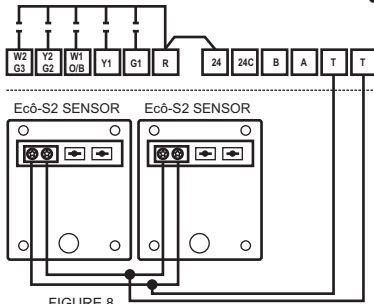

FIGURE 8
Multiple sensors can be connected to the 'T' and 'T' terminals if temperature averaging is required with or without the use of the thermostat onboard sensor. The total value of remote sensors wired in series/parallel must equal 10kΩ @ 77 F. The onboard sensor is not part of the equation. Figure 8 shows (2) Ecô-S2 sensors used for averaging.